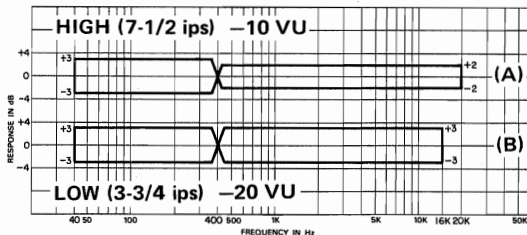

Fig. 8-10 Frequency Response – OVERALL – 1
17. During recording, monitor the Tape signal and adjust equalization REC EQ L281 for readings within the Response Limits charts. See Fig. 8-10 (A) below.
18. Apply signal swept from 40 Hz to 16 kHz, -32 dB (19.4 mV) and while monitoring the off-the-tape signal check for readings within the Response Limits charts. See Fig. 8-10 (B) below.
20. Adjust equalization R375 for readings within the response limits charts. See Fig. 8-10 (A) above.
21. Repeat the above procedure for LOW, using a signal swept from 40 Hz to 16 kHz. Refer to Response Limits in Fig. 8-10 (B) above.
3. Check that output is within limits given in Fig. 8-10 (A), (B).